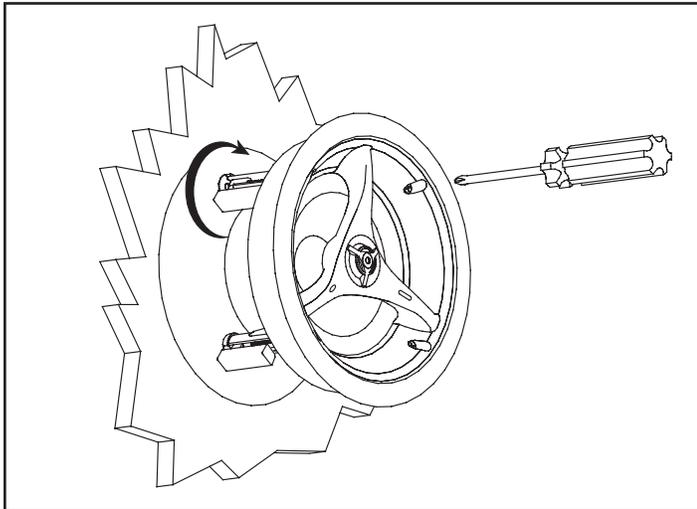

Figure 1
4. Insert the speaker into the opening in the ceiling and **CAREFULLY** tighten each of the four clamping screws, alternating diagonally between each screw position to ensure proper fit and finish. See **FIGURE 1**.